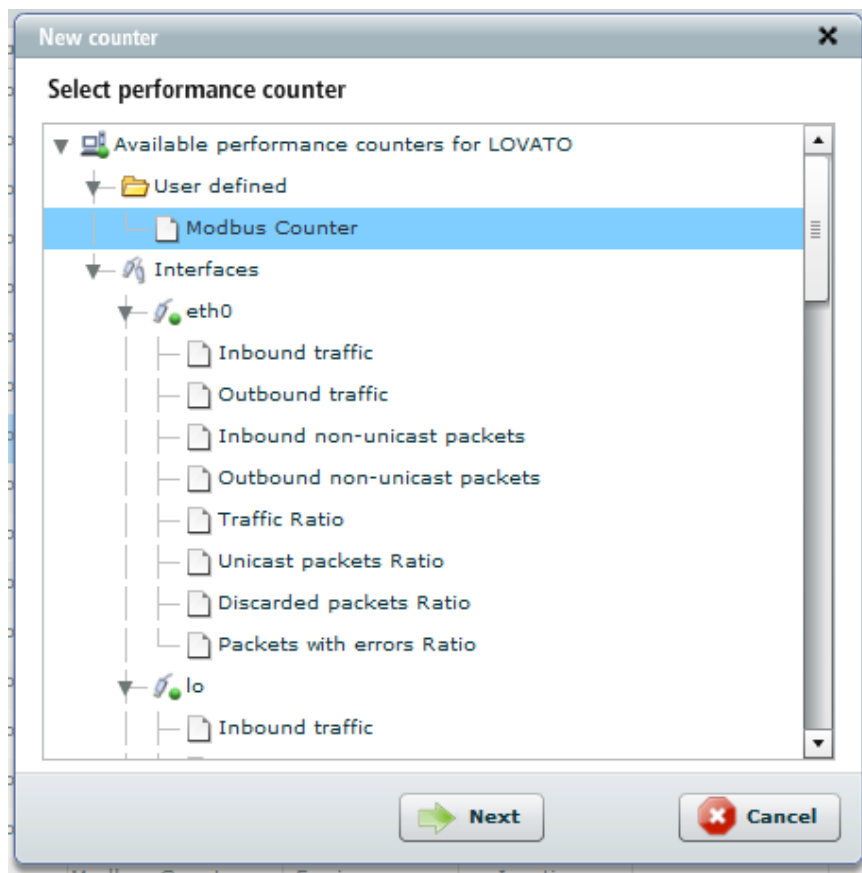

Figure 7: Adding a counter to MODBUS device
5. The wizard dialog is displayed (see Figure 7).